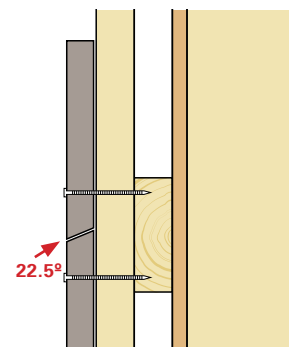

Fig. 19A
- For vertical applications, ensure that the overlap of the 22.5 degree angle cut end faces out so water does not seep between the boards and rest on the inward facing cut. *(See Figure 19A)*